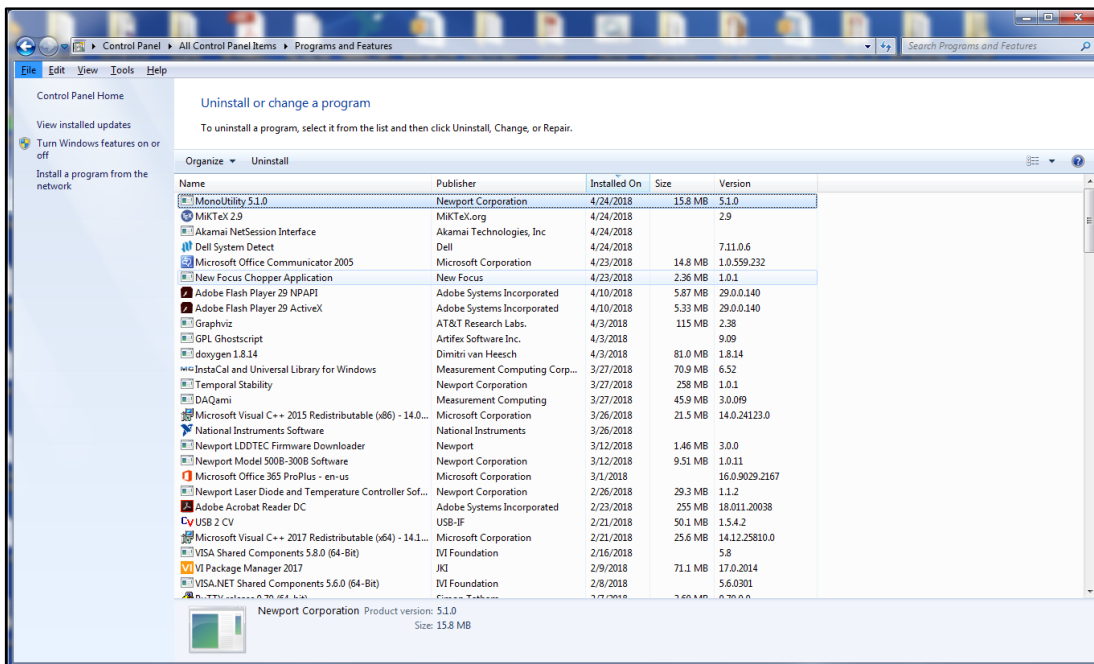

Figure 19: Programs and Features.
2. In the Windows Start menu, click on “Control Panel,” and then select, “Program and Features” (Fig. 19). This shows a list of all software currently installed on the system, including the software version numbers. Select and uninstall, “Mono Utility version x.x.x.” Uninstalling MonoUtility will take approximately 5 minutes.